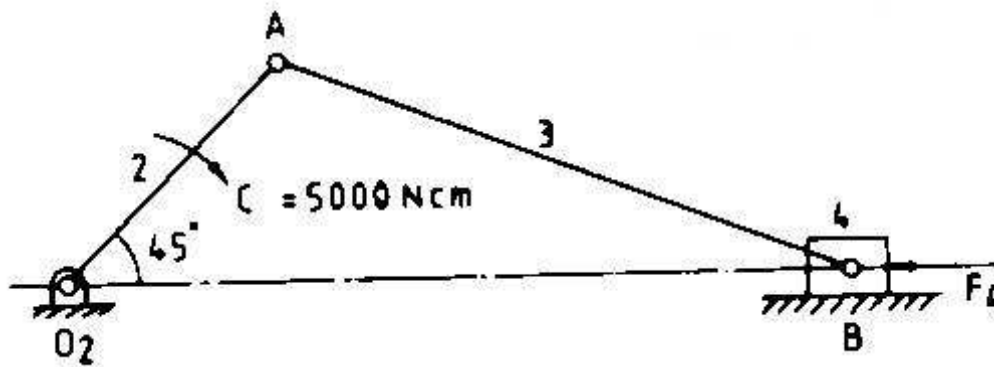

Figure 2:
5. The driving moment applied on link '2' is as shown in Figure 2 below. Determine the force on link '4' that is necessary to be applied for equilibrium of the linkage. Also determine the state of loading on the connecting rod.